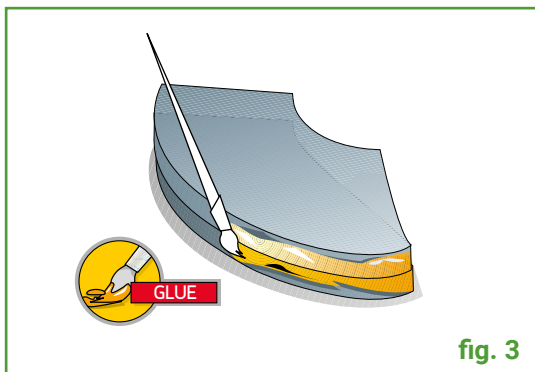

fig. 3
Cut lengthwise along the inner side (fig 3)
3) Lay the two sections flat on top of each other and spread MATIBLOCK glue on the edges of the profile with the larger radius. (fig 3)